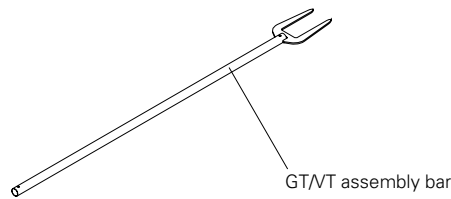

Fig. D6.10a
2. From below, place the girder on the slab prop using the GT/VT assembly bar (Fig. D6.10a). The maximum edge distances depending on the girder are: